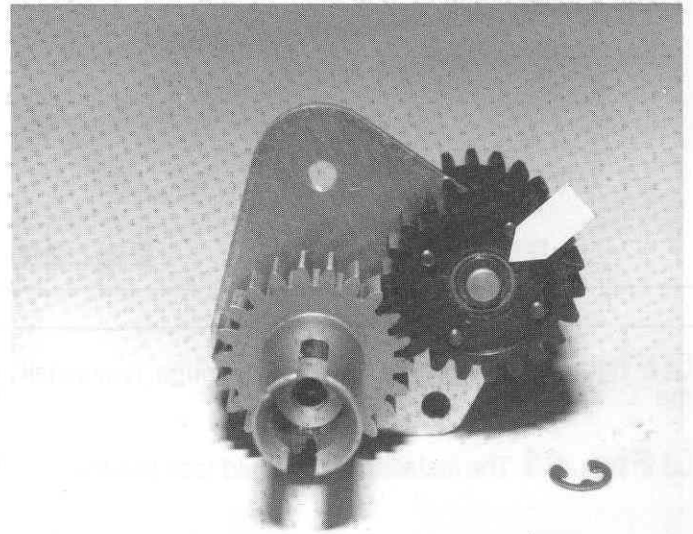

Fig. 49
□ **Fig. 49** Now oil the bushing and put the completed gear on the pivot pin on the aluminum spine plate.